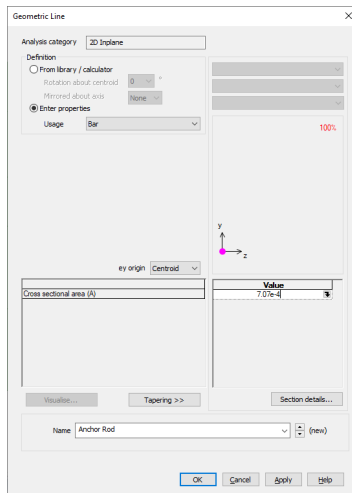

Figure 17: Anchor Rod geometric properties
- Using **Attributes > Geometry > Line...** Select **Bar** from the **Usage** dropdown list. Enter  $7.07 \times 10^{-4}$  for the area and **Anchor Rod** in the name field. Then click **Apply** (figure 17).